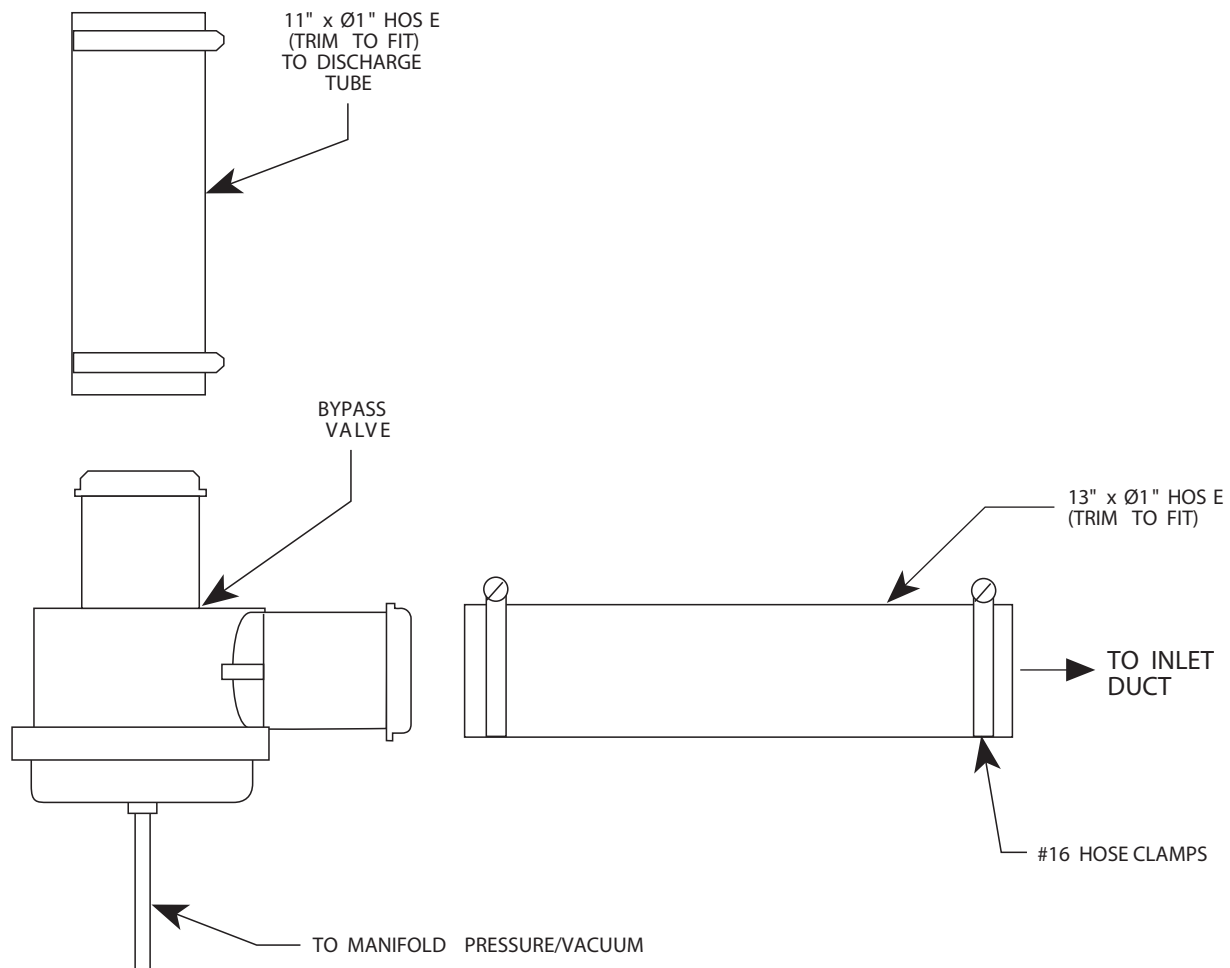

Fig. 8.2
3. Secure the 13" piece to the outlet of the valve, securing it with a clamp. (See Fig. 8.2.)